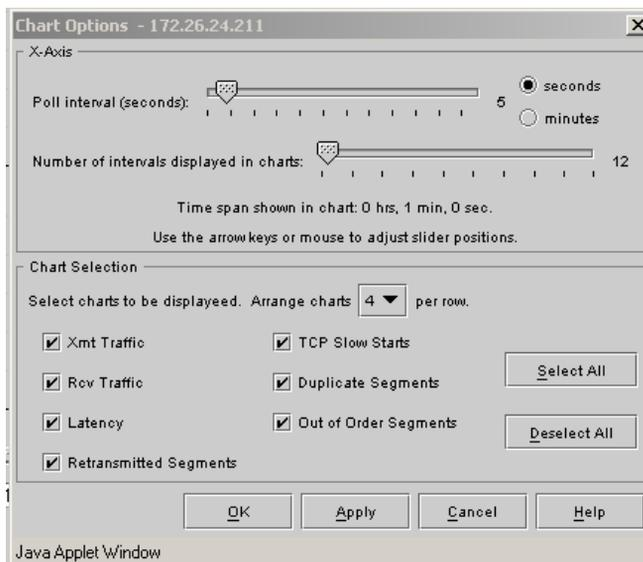

Figure 6-26 Chart Options Dialog Box
- Click the *Options* button to display the *Chart Options* dialog box (Figure 6-26 on page 6-36). Use this dialog box to change the polling interval and the number of displayed intervals. The default polling interval is five (5) seconds.